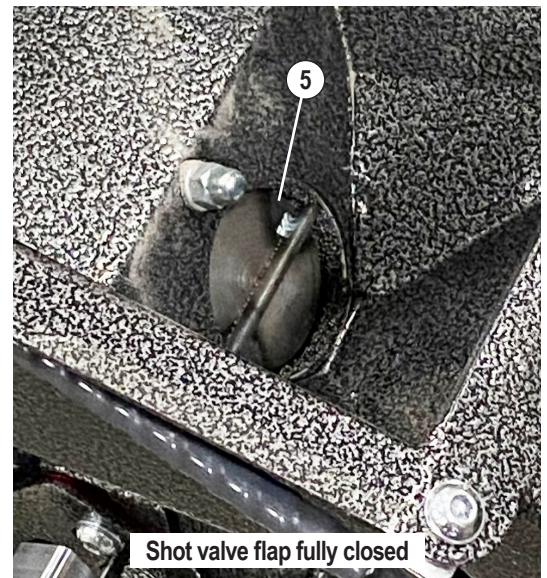

FIG. 7
1. Remove feed spout (1) by pulling it out of the housing.
2. Loosen the control cage clamps (2).
3. Remove the control cage (3).
4. Remove the nuts (4) of the front plate (5) and remove the plate.
5. Fix the blast wheel (7) from rotating by pressing the shaft-locking button on motor (Figure 7).
6. Remove the blast wheel nut (6).
7. Remove the blast wheel (7).
8. Remove the wheel hub (8) and inspect for wear.
9. Inspect the seal (9) for wear.
1. Replace seal (9) if it is worn.
2. Place wheel hub (8) on motor shaft making sure it is properly aligned and fully seated.
3. Place blast wheel (7) through the housing opening and onto the wheel hub (8) aligning with the pins of the hub. Spin wheel to ensure it is properly seated on the pins and doesn't wobble.
4. Clean threads of motor shaft and blast wheel nut (6) removing any shot.
6. Tighten the blast wheel nut (6) to secure the blast wheel. Spin wheel to ensure it doesn't wobble.
7. Reattach the front plate (5) with the nuts (4). Spin blast wheel to ensure it doesn't wobble.
8. Install the control cage (3). Spin blast wheel and listen for any grinding noises.
9. Tighten the cage clamps (2) to secure the control cage (3). Make sure the blast wheel can rotate freely.
10. Install the feed spout (1).
11. Adjust the control cage (3) to achieve an even blast pattern.